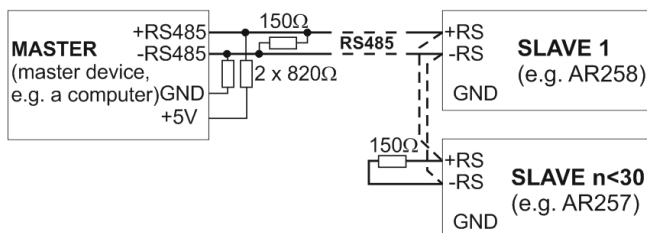

Fig.12. Pictorial diagram of the RS485 network
- termination and polarizing resistors when the MASTER is at the start of the line (Fig.12):